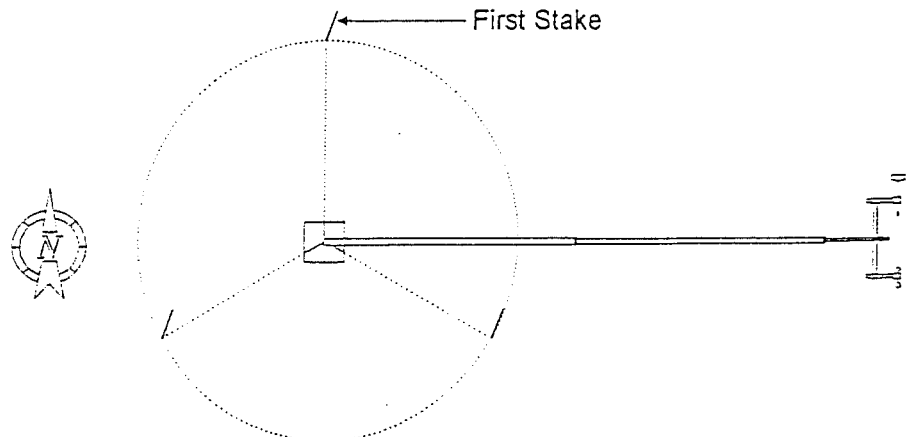

Figure 4-4
7. Repeat for the third stake. Your mast and stakes should now look something like Figure 4-4. If this process is done as is described here, there will be no guy wire shadow across the solar panel when it is mounted and facing South.